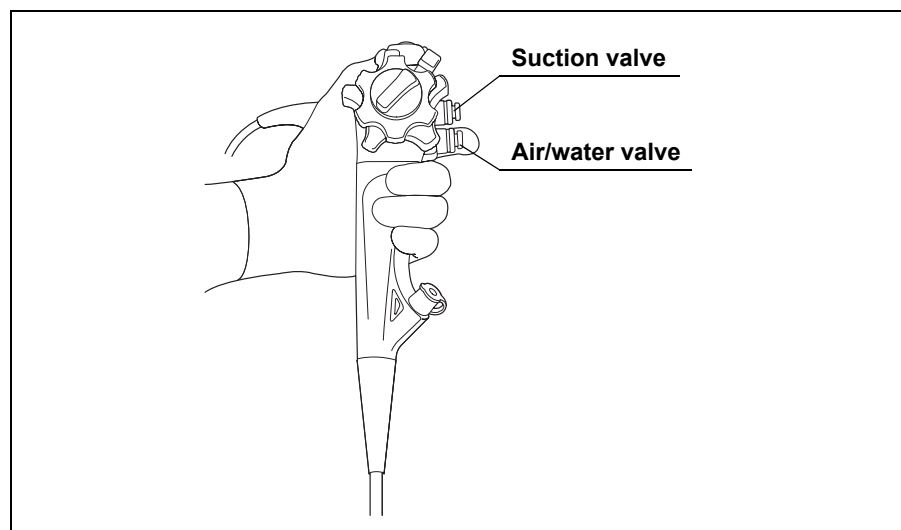

Figure 4.5
1. Cover the air/water valve's hole to feed air from the air/water nozzle at the distal end (see Figure 4.5).
2. Depress the air/water valve to feed water onto the objective lens (see Figure 4.5).
Depress the suction valve to aspirate excess fluids or other debris obscuring the endoscopic image (see Figure 4.5).